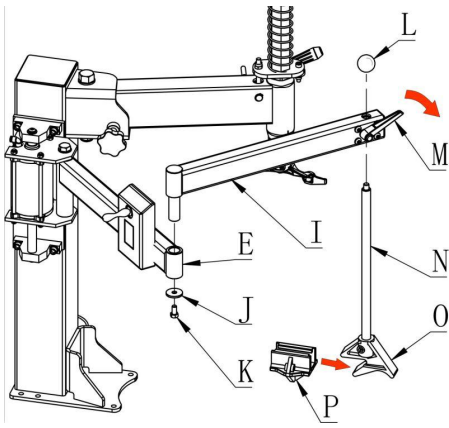

Fig. 6
- Fix arm I into arm E as Fig.6 fasten it with screw K and washer J.
- As Fig.6, loose switch rod M at clockwise, insert rod N into the hole on the arm, lock N with switch M at anti-clockwise, install L into N, install centering cone P into O , arm installation finished.